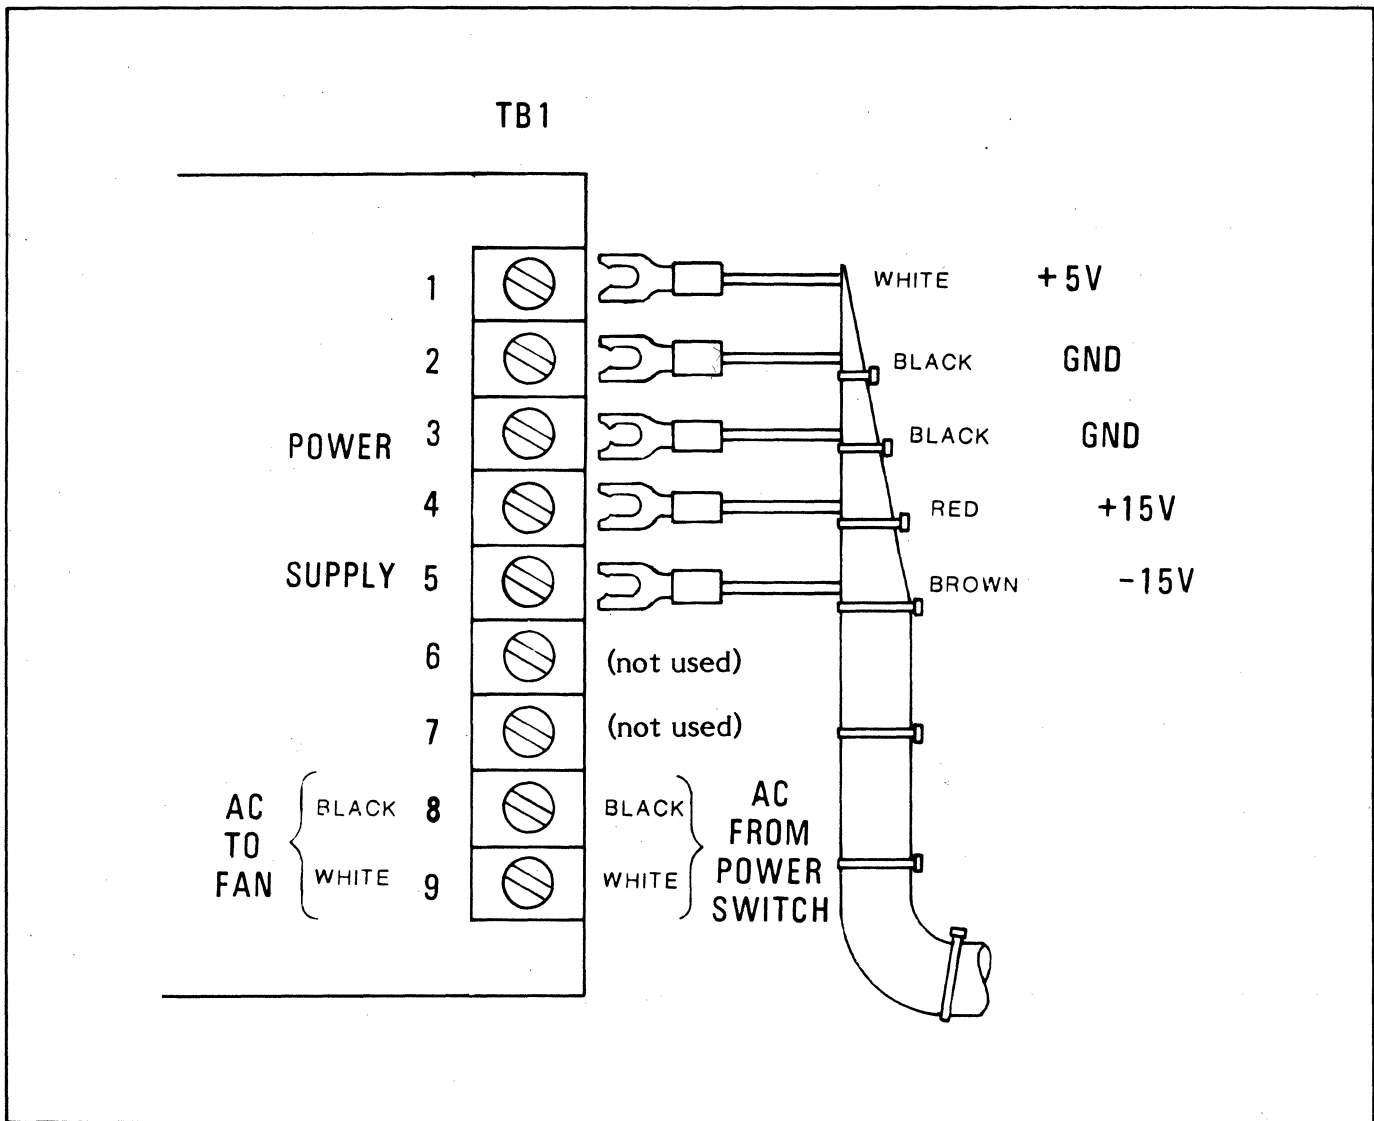

Figure 3-5. Power Supply Connections
- (1) Tilt the HyTerm up and connect the wires to the new supply as per Figure 3-5. Observe the cautions about tilting the HyTerm noted in step (5) of the removal procedure.
- (2) Swing the power supply into position inside the printer casting. Make sure all wires and cables are positioned securely.
- (3) Holding the power supply in position, insert the mounting screws through the top cover screen and the printer casting and start them into the threads in the power supply frame. Start all 4 mounting screws.
- (4) Tilt the HyTerm down onto its feet. Tighten all 4 power supply mounting screws securely.